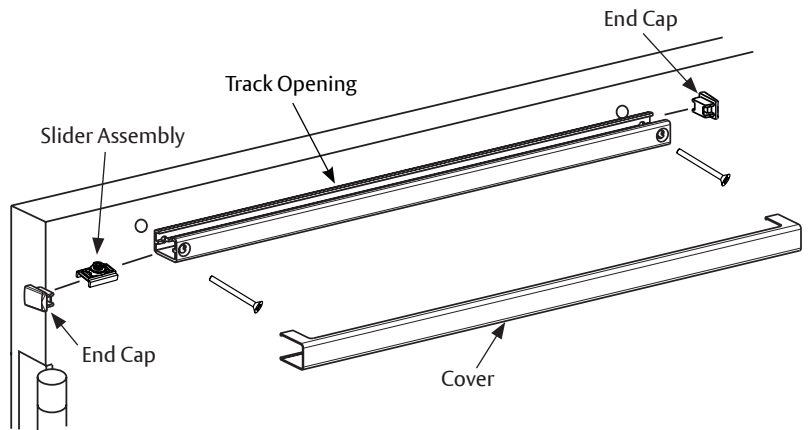

Figure 6
3. Using previously prepared holes in door, secure track to door with two (2) #12 x 2-1/4" screws. (Figure 6)